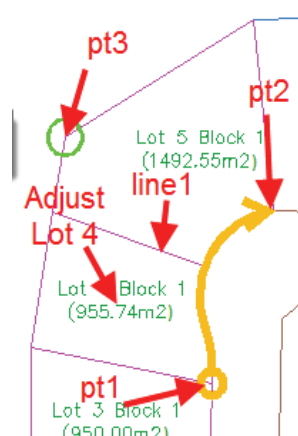

Figure 2–51
17. When prompted for the *swing point*, select the end point of pt3, as shown in Figure 2–51.